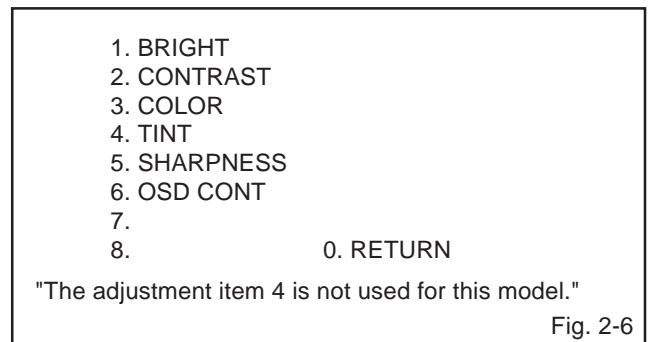

Fig. 2-6
3. Activate the adjustment mode display of **Fig. 1-1** and press the channel button **(4)** on the remote control to select "PICTURE". The **Fig. 2-6** appears on the display.
4. Activate the adjustment mode display of **Fig. 1-1** and press the channel button **(4)** on the remote control to select "PICTURE". The **Fig. 2-6** appears on the display.
1. Activate the adjustment mode display of **Fig. 1-1** and press the channel button **(4)** on the remote control to select "PICTURE". The **Fig. 2-6** appears on the display.
5. Activate the adjustment mode display of **Fig. 1-1** and press the channel button **(4)** on the remote control to select "PICTURE". The **Fig. 2-6** appears on the display.
2. Activate the adjustment mode display of **Fig. 1-1** and press the channel button **(4)** on the remote control to select "PICTURE". The **Fig. 2-6** appears on the display.